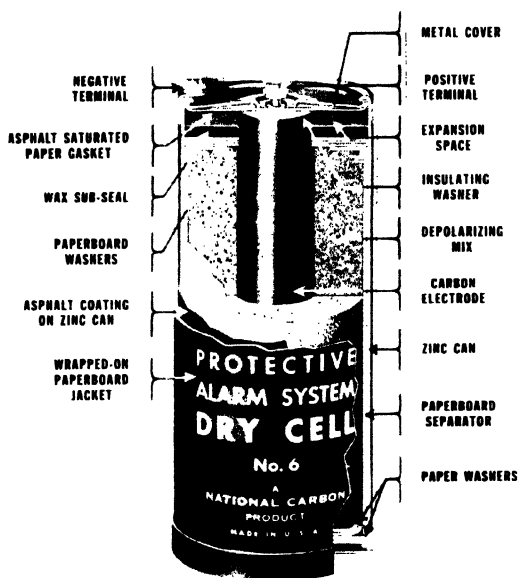

Fig. 29-18. Cross-sectional view of the dry cell. (Courtesy of National Carbon Co., Inc.)
**The Dry Cell.** Because of the nuisance of spilling the electrolyte, the *dry cell* was developed. The positive electrode is a carbon rod; the negative electrode is a cylindrical zinc shell or can closed at the bottom. The electrolyte is a paste made of ammonium chloride mixed with other chemicals (Fig. 29-18). This cell is *dry* only in the sense that the liquids are prevented from spilling out.